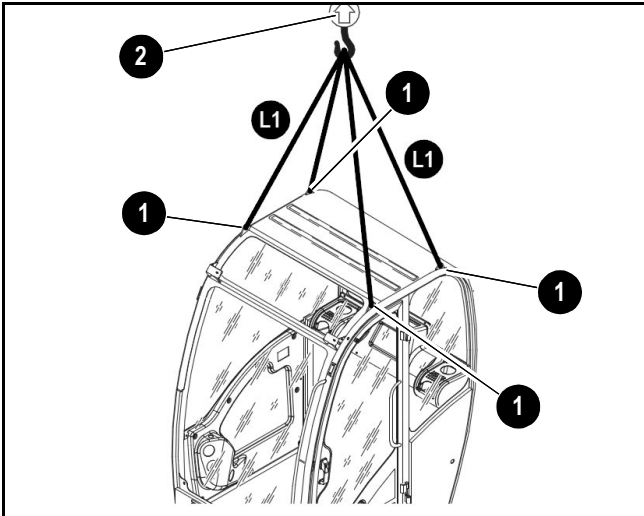

Figure 4-24 Cab/Canopy Lifting
7. Fasten lifting rigging of sufficient capacity to lifting points (1, Figure 4-24) on the top of the cab/canopy.
1. Fasten lifting rigging of sufficient capacity to lifting points (1, Figure 4-24) on the top of the cab/canopy.